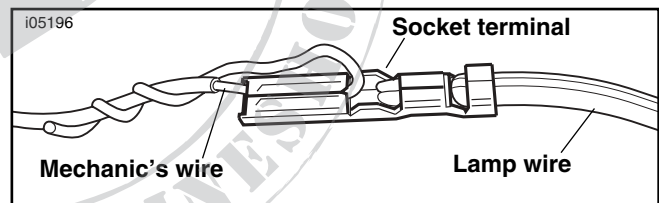

Figure 1. Mechanic's Wire
5. See Figure 1. Remove the wires and terminals from the socket housing [31B]. Attach a length of strong, flexible mechanic's wire to each terminal.
- See Figure 1. Feed each mechanic's wire through the opening in a socket terminal, then loop back, twisting the end until tightly wound around the longer strand.